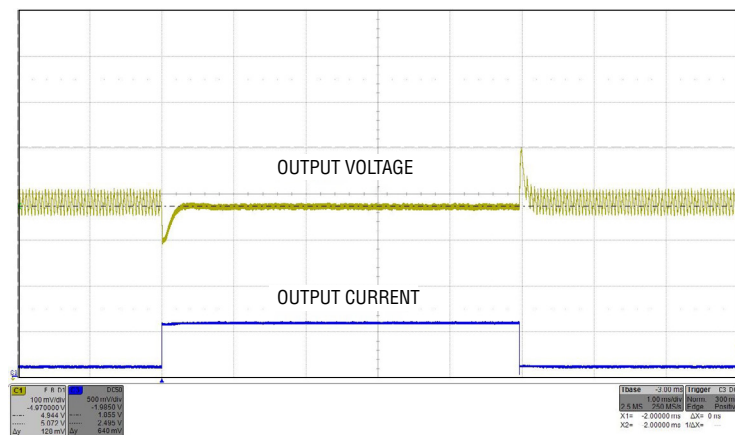

Figure 5. 50mA to 600mA Load Transient with $V_{IN1} = 3.5V$ in Burst Mode
13. With JP2 in AUTOBURST and PS1 at 12V switch the load from 50 mA to 600 mA and back. Note the output voltage ripple. (Figure 5). See the data sheet for more information.